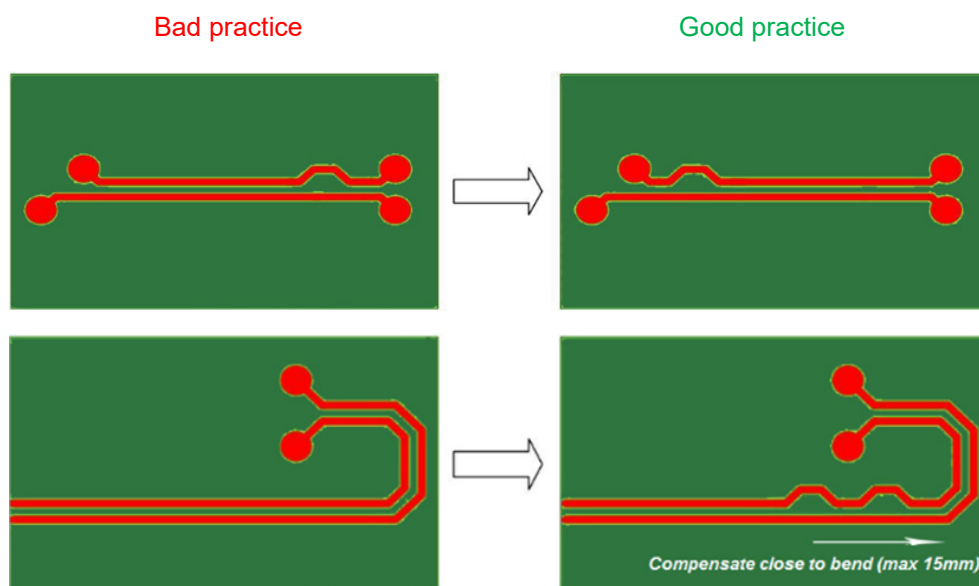

Figure 18. Differential Traces Layout Practices (3)
Differential Traces Layout Practices (3) (see Figure 18)